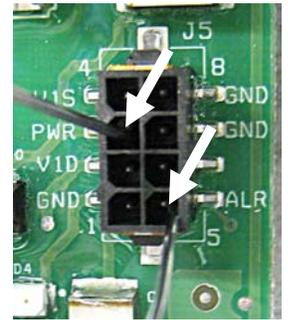

Figure 1
4. Insert a jumper between the power (PWR) (pin3) and the alarm (ALR) (pin5) see Figure 1.